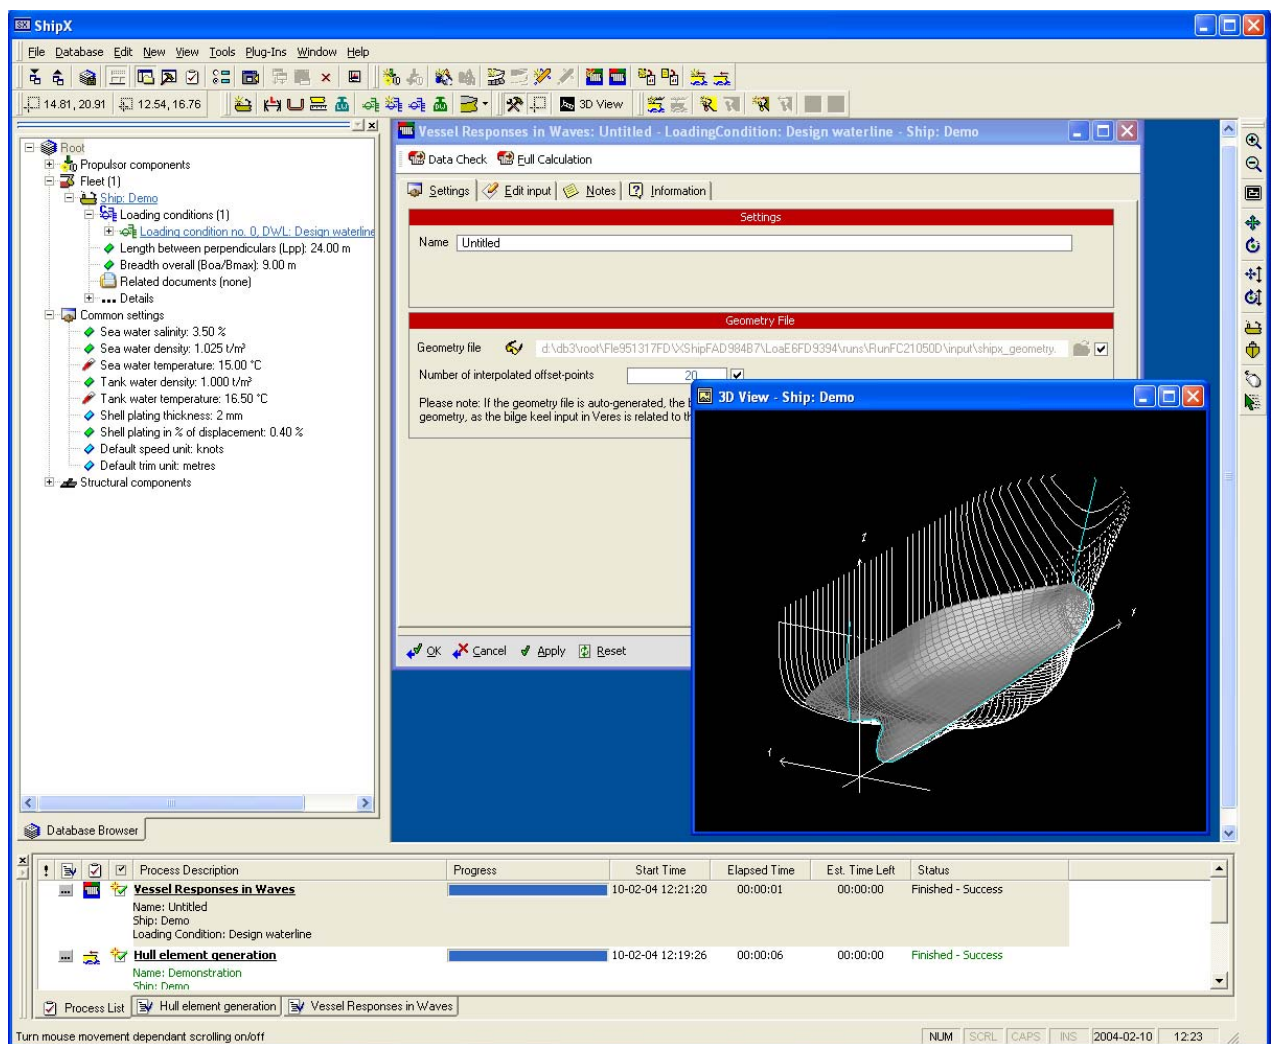
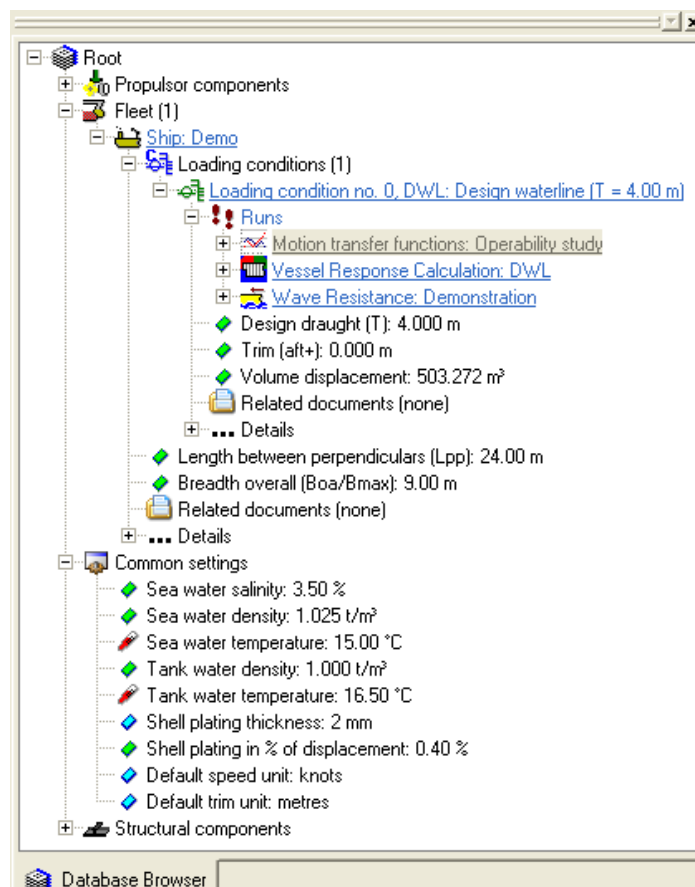
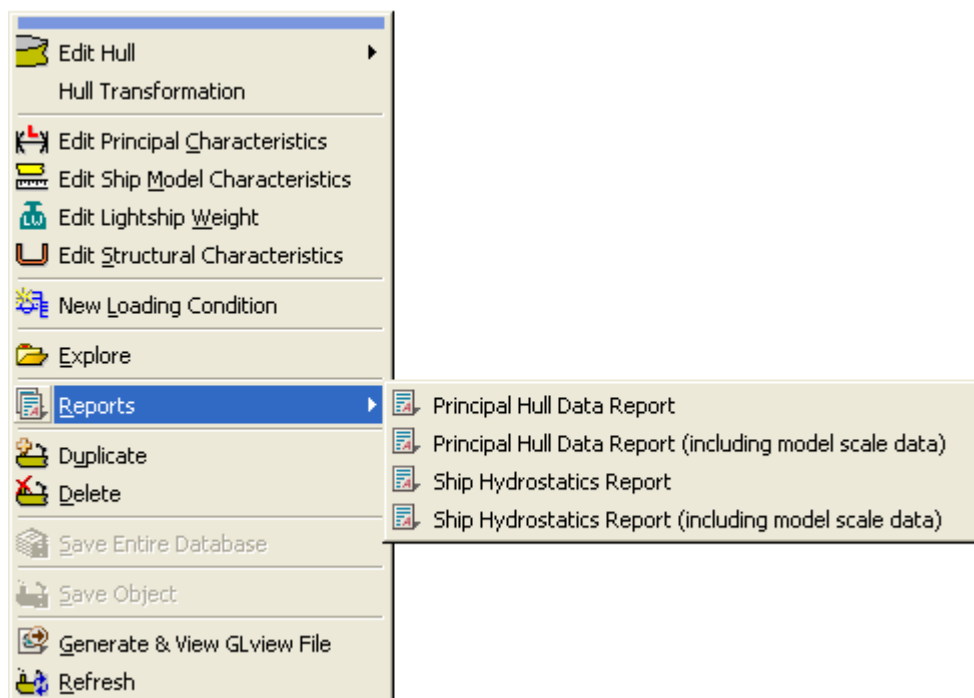

Figure 2.1 The SHIPX Workbench
Figure 2.3 The SHIPX Database Browser
Figure 2.5 Context menu for a ship in the Database Browser
Figure 2.1 shows an example of the SHIPX user interface. The tree structure on the left-hand part of the window is central in the use of the program (see Figure 2.3). This is the *SHIPX Database Browser*, which displays the contents of the currently open database in SHIPX. Most functions can be selected from context menus in this tree structure, activated by selecting a node in the tree view with the mouse, and clicking the right-hand mouse button. Figure 2.5 shows the context menu for “ship” in the database browser.
Many of the functions can also be activated from the buttons on the toolbar, or from pull-down menus. Buttons and pull-down menus act on the on the active object of the correct type in the Database Browser, e.g. the active hull, active loading condition or active run of a specific type. The active object is selected by clicking in the Database Browser, and is shown underlined in the Database Browser (see e.g. the loading condition in Figure 2.3). To avoid errors and misunderstandings, it is generally recommended to use right-click on the object of choice, rather than using buttons and pull-down menus (at least for inexperienced users).
A number of functions can be activated by right-clicking on the ship in the Database Browser (Figure 2.5 shows the context menu):
- ❑ From the context menu of the hull it is possible to generate text reports on main dimensions and stability calculations for the design draught (see the open sub-menu in Figure 2.5).
Loading conditions are created by selecting *New Loading Condition* from the *Ship* context menu (see Figure 2.5). Initially, the ship is created with one loading condition: The *Design Loading Condition*. This loading condition is always numbered as loading condition no. 0, and *cannot* be deleted. The dialog for definition of a loading condition is shown in Figure 2.6. This dialog can also be used to modify an existing loading condition (choose *Edit Loading Condition* from the context menu of the relevant loading condition).